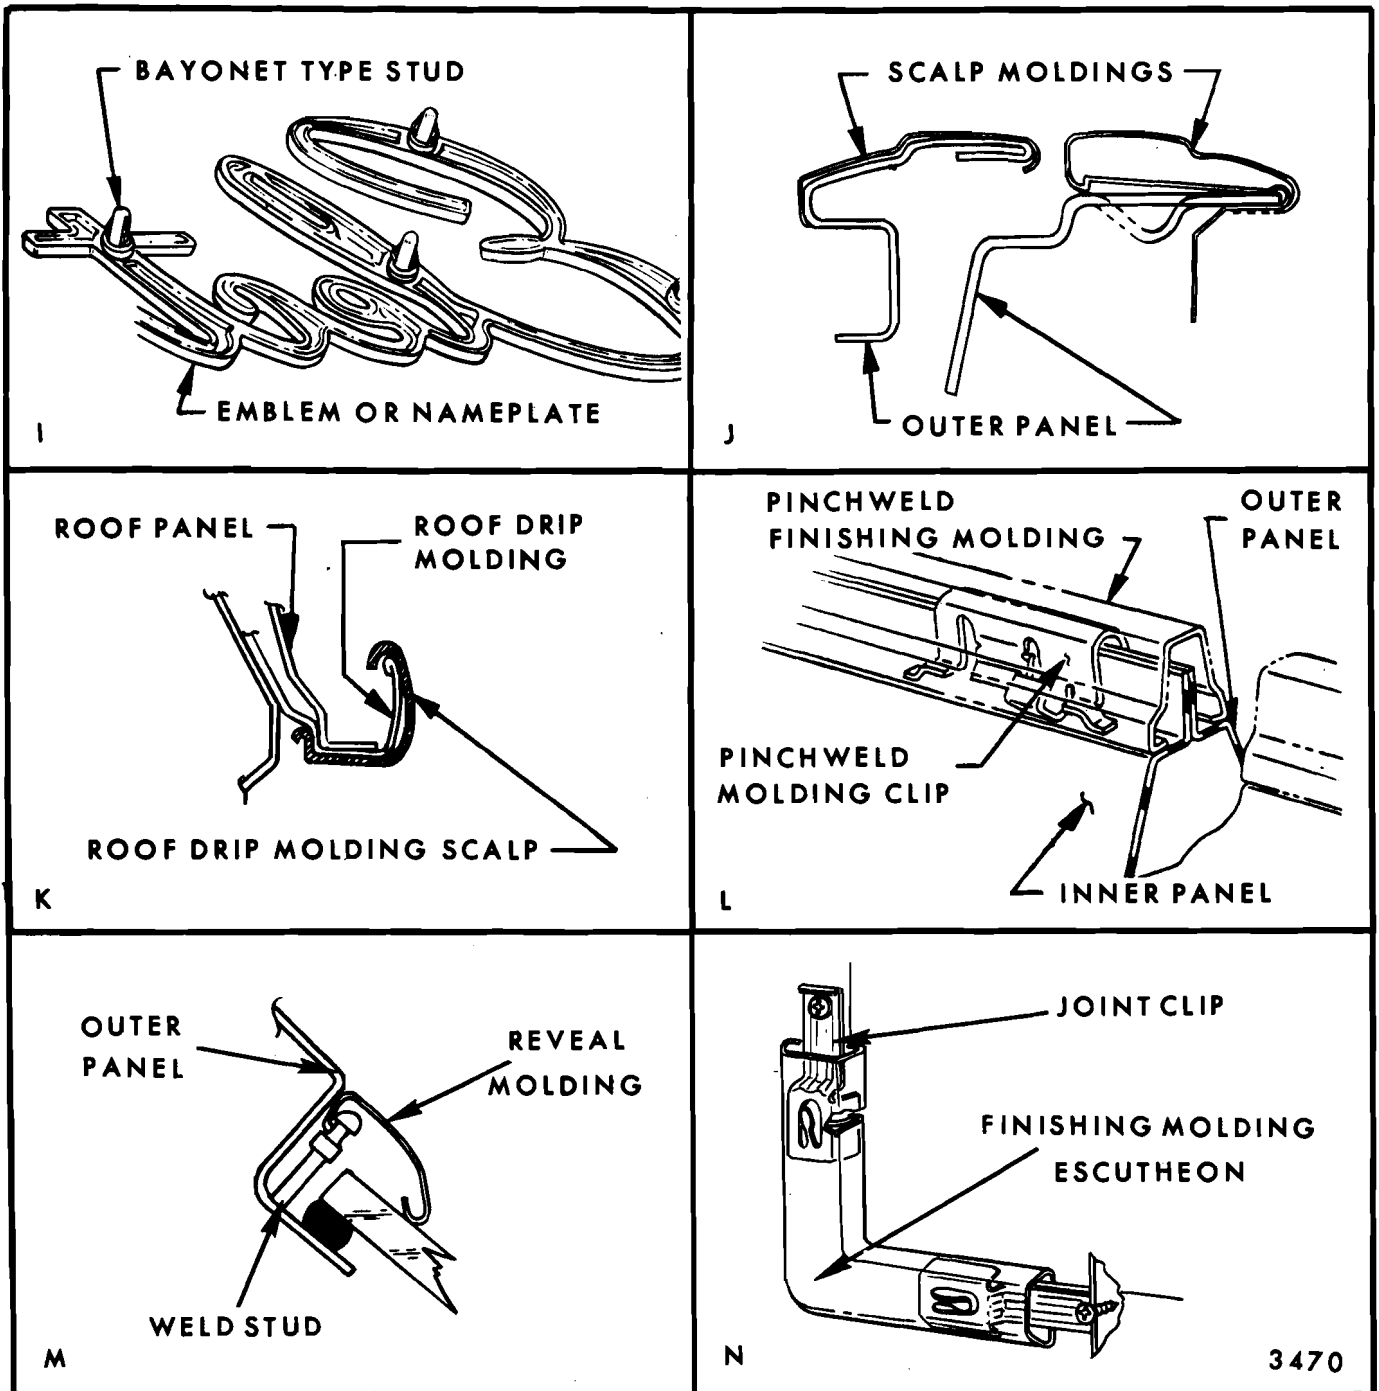
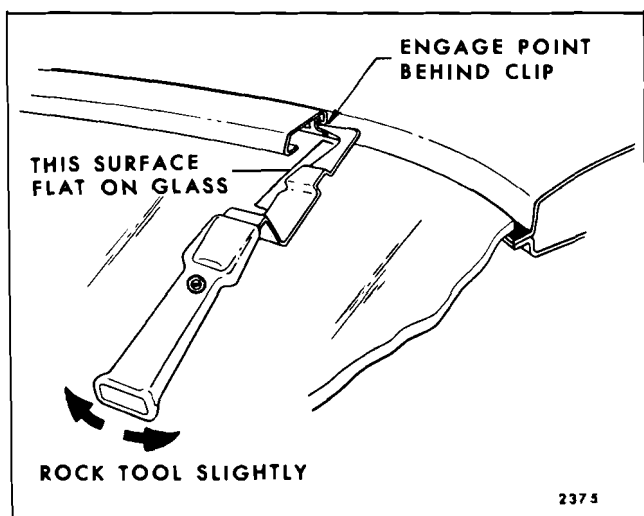

Fig. 17-2—Exterior Molding Attachments
Fig. 17-3—Usage of Reveal Molding Removal Tool
Reveal moldings around adhesive caulked glass installations are retained by either clips, which are attached to the body opening by weld-on studs, or specially designed weld-on studs (Oldsmobile "A" styles) which require no clips. A projection on the clip or special weld-on stud (View "M", Fig. 17-2) engages the reveal molding flange, retaining the molding between the clip or special weld-on stud and body metal. To disengage a molding from retaining clips, use appropriate tool (see chart) as shown in Figure 17-3.
- b. Insert self-sealing, self-tapping repair stud #8766953 (See View "M", Fig. 17-2).